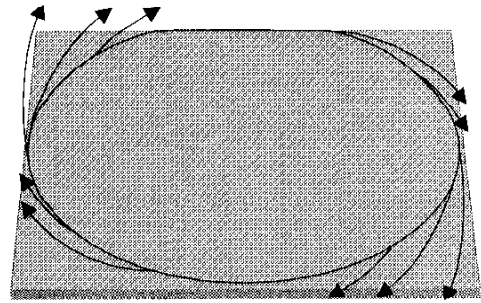

Figure 7 -- Making a Curved Cut
Step 2: When cutting curves, be careful not to twist the BLADE (#1). If the curve becomes so tight that this is unavoidable, then run the BLADE in a straight line through the waste of the stock as shown in Figure 7. Begin your curve again where you left it on the stock.